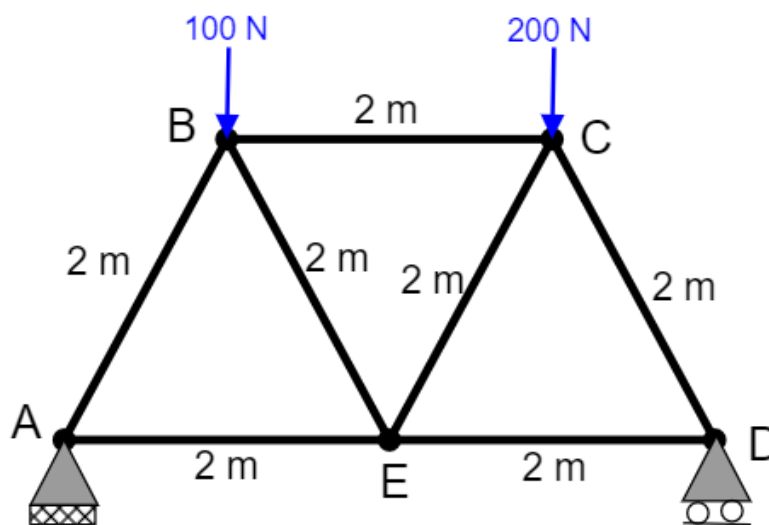

Figure Q6: Truss structure.
- b) A truss structure for a small bridge is shown in **Figure Q6**. For the given geometry and loads,